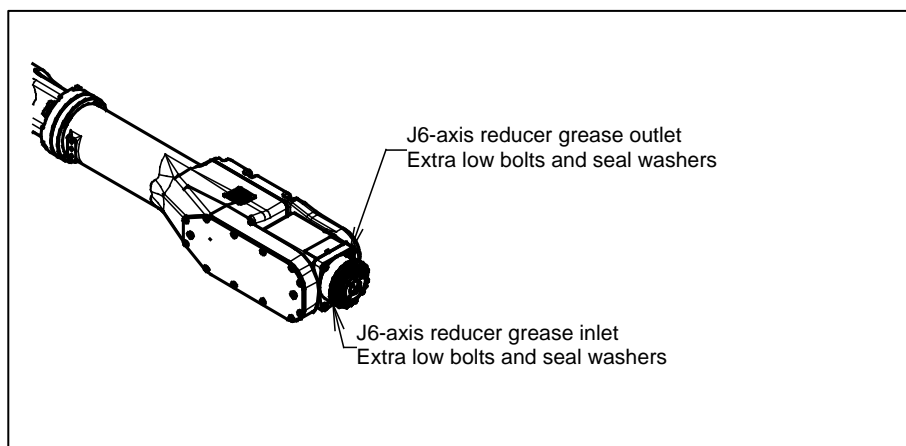

Fig.7.3.2 Greasing the J6-axis reducer
- See Fig. 7.3.2 (a) and Table 7.3.2 (a) for greasing points and the method.